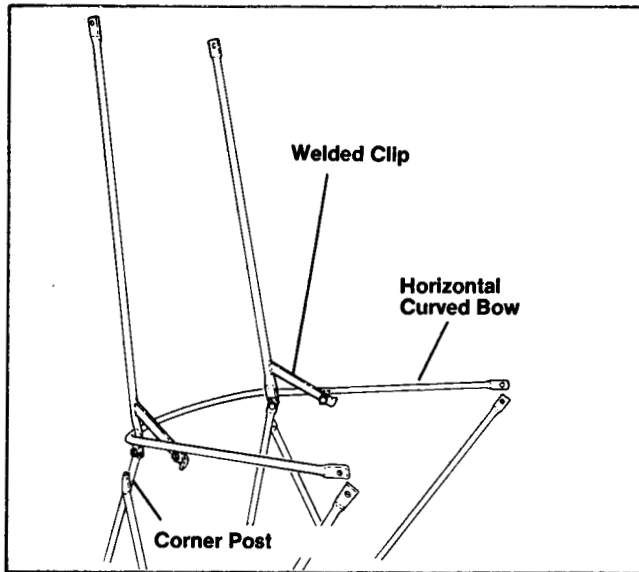

Figure 137
7. Mount the horizontal curved bow to the front legs of the attaching brackets with two 1/4-20 X 3/4" capscrews and locknuts. See Figure 137. Welded clips on the curved bow must be positioned between the post and the attaching bracket.